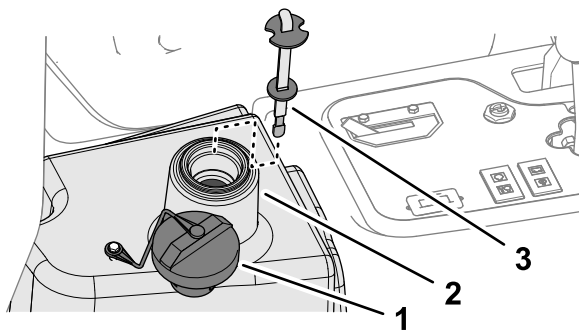

Figure 85
4. Fill the reservoir (Figure 85) with approximately 22.7 L (6 US gallons) of hydraulic fluid; refer to Hydraulic Fluid Specifications (page 57).